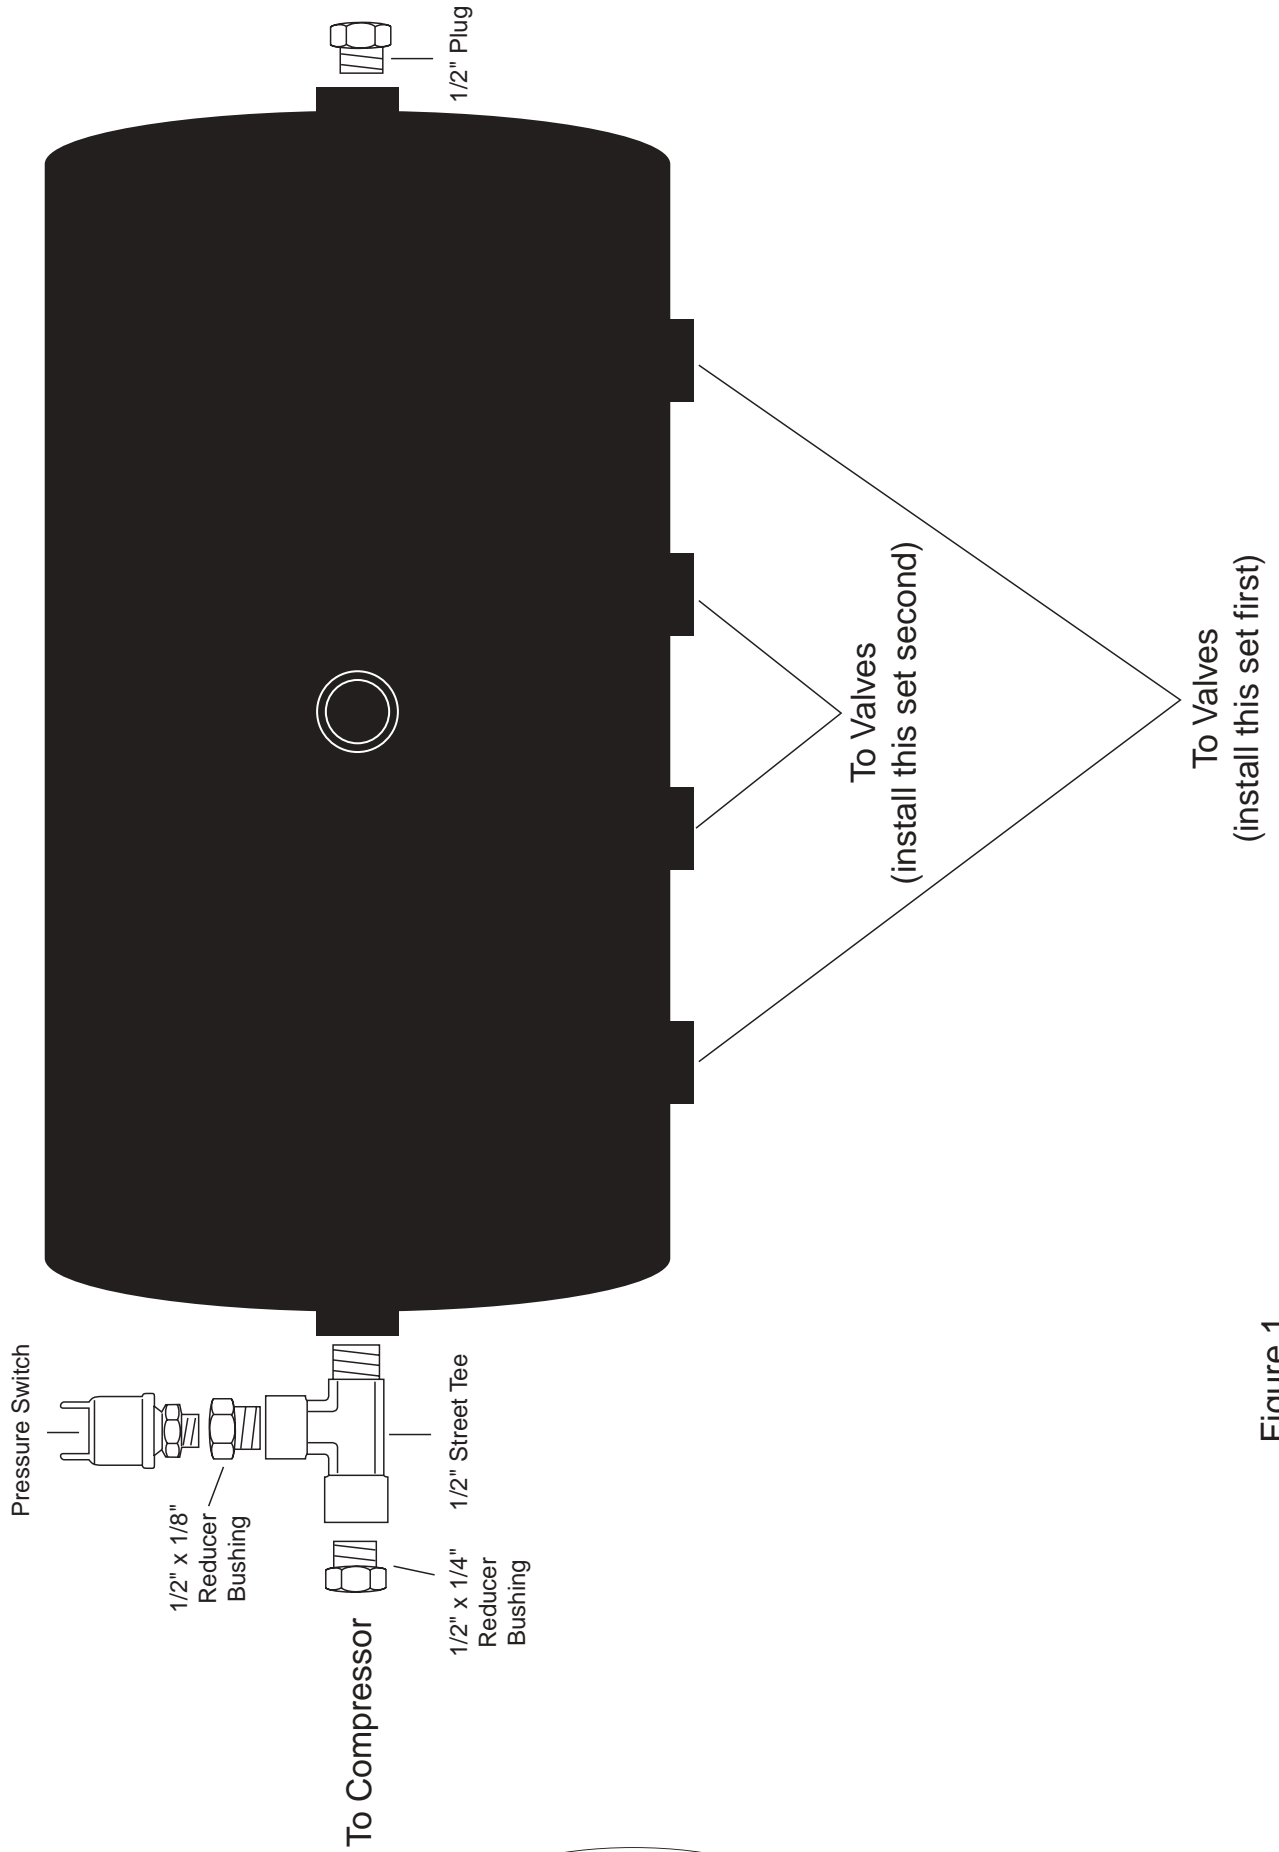
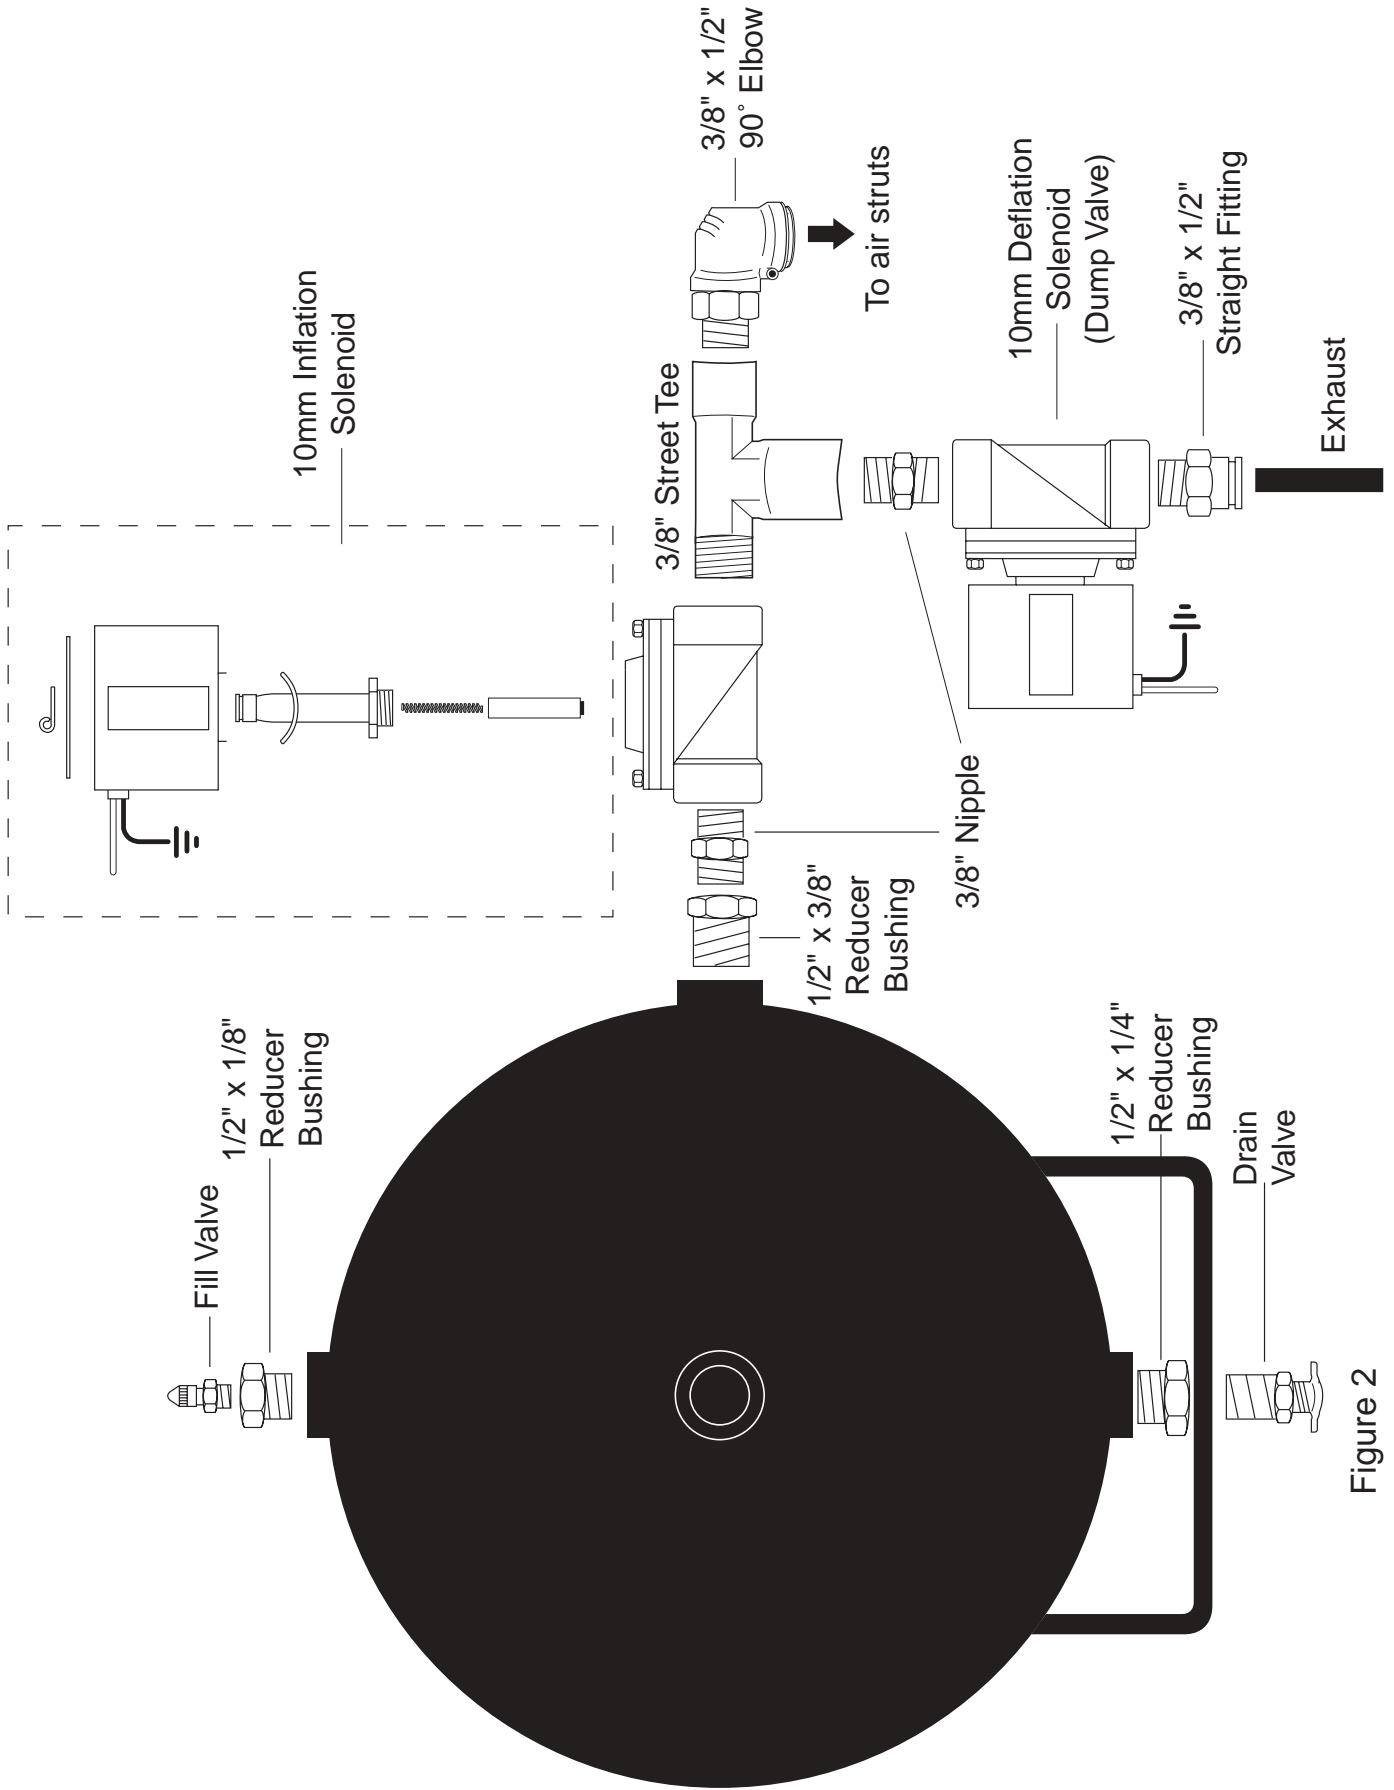

Figure 1
Figure 2
- The solenoid valves will mount to the air tank. Refer to the schematic in Figure 1 to determine the correct sequences of valves.
1. Install a 1/2" x 1/8" bushing to the top of the air tank. Install the fill valve to the 1/2" x 1/8" bushing. (Figure 2).
2. Assemble a 1/2" x 1/4" bushing to the side of the street tee provided. Install the 145/175 p.s.i. pressure switch and a 3/8" to 1/8" reducer to the top of the tee. Install this assembly to the port on one end of the air tank (Figure 1).
3. Install the supplied plug to the other end of the air tank (Figure 1).
5. Attach a 1/2" x 3/8" reducer bushing to a 3/8" pipe nipple. Attach the 10mm fill valve to the nipple (Figure 2).
Attach a 3/8" nipple to the street tee facing down. Attach the dump valve with the "In" port facing the street tee. Attach a 3/8" x 1/2" tube fitting to the other side of the dump valve. Install a 2"-3" piece of 1/2" hose to this fitting. Attach a 3/8" x 1/2" tube 90° fitting to the last port on the street tee. This port goes to the air strut (Figure 2). Assemble the valve assemblies this way for the two outer most ports on the tank (Figure 1).
6. Attach the two assemblies to the outer ports on the air tank, leaving the two inside ports empty for the other assemblies (Figure 1).
7. Assemble the inner valve assemblies in the same manner as detailed above, but leave the 3/8" street tee and the dump valve off for now. In order to install the assemblies to the tank, the fill valves will need to be disassembled (Figure 2). Once the fill valve is taken apart, install the assemblies to the inner ports on the tank.